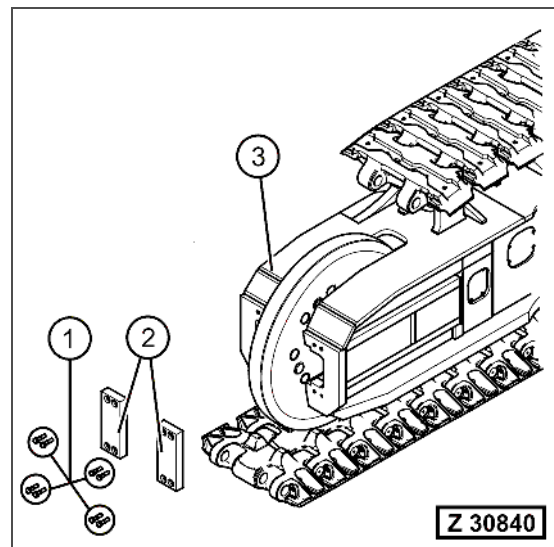

Fig. 4-31
8. Disassemble the bolts (Fig. 4-31, Pos. 1) and remove the stop plates (Fig. 4-31, Pos. 2) from both sides of the track frame (Fig. 4-31, Pos. 3).